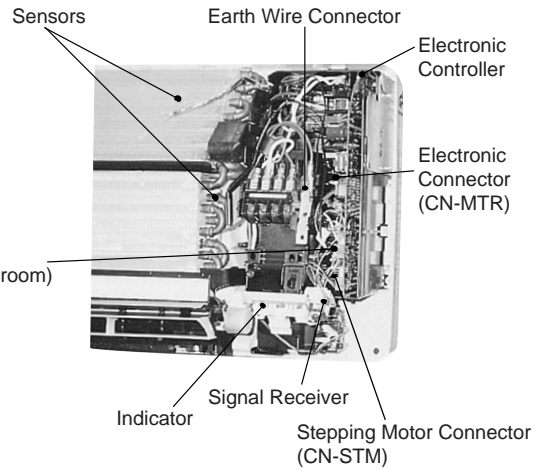

Fig. 1
1. The Electronic Controller, a signal Receiver and an Indicator can be seen by removing the Front Grille and Control Board Cover, as shown in the Fig. 1.
1. Remove the connector CN-MTR (GREEN) of Fan Motor and connector CN-STM (GREEN) of stepping motor from the electronic controller. Release the earth wire (YELLOW-GREEN) from the control board and sensors from its holders. (Refer Fig. 1)